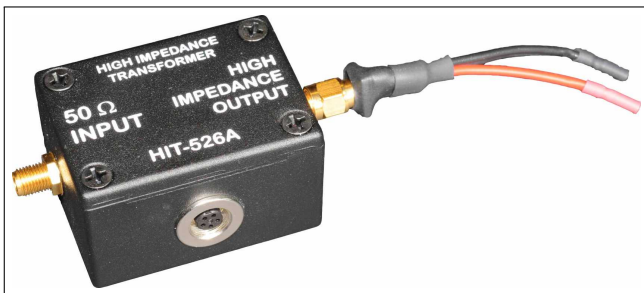
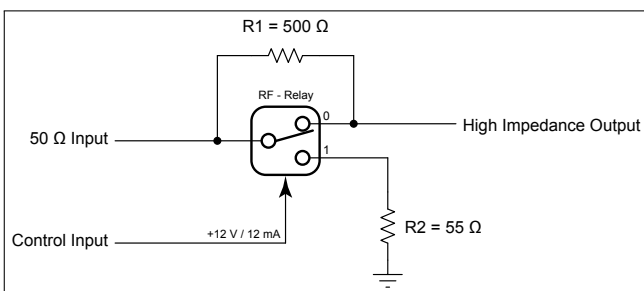

Figure 1: HIT-526A with SMA-to-cable interface (optional) at high impedance output.
Figure 2: HIT-526A schematic diagram.
The HIT-526A (Fig. 1) can be used for 526 Ω high impedance TLP measurements. If the RF switch (Fig. 2) is in the position 0 the resistor R1 is short circuit, R2 is not used, and the HIT-526A works as a through connection. If the RF switch is in the position 1 the pulse input is matched to 50 Ω with R1 and R2 plus DUT connected in parallel to ground. This mode is used for 526 Ω high impedance TLP measurements.
If the SMA-to-cable interface is used (Fig. 1), the bandwidth is limited and rise times ≥ 5 ns should be used in the TLP setup in order to avoid ringing due to the parasitic inductance. If a SMA 50 Ω line is connected to the high impedance output, the typical capacitive load of 1 pF/10 mm of the transmission line together with the
- Keep cable length from the current sensor output to the DUT as short as possible since a 50 Ω transmission line adds 1 pF per 10 mm, which may deteriorate the measurement result. For PCB or packaged device measurements the short cables (Fig. 1) can be used for low parasitics interconnections.